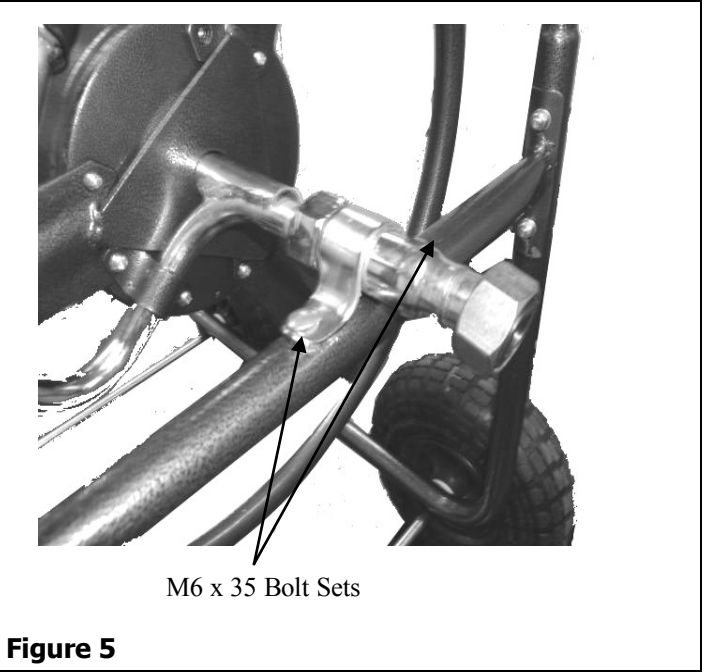

Figure 5
5. Attach Opposite end of the Hose Reel Assembly to the Cross Brace using (2) M6 x 35 Bolt Sets. See Figure 5